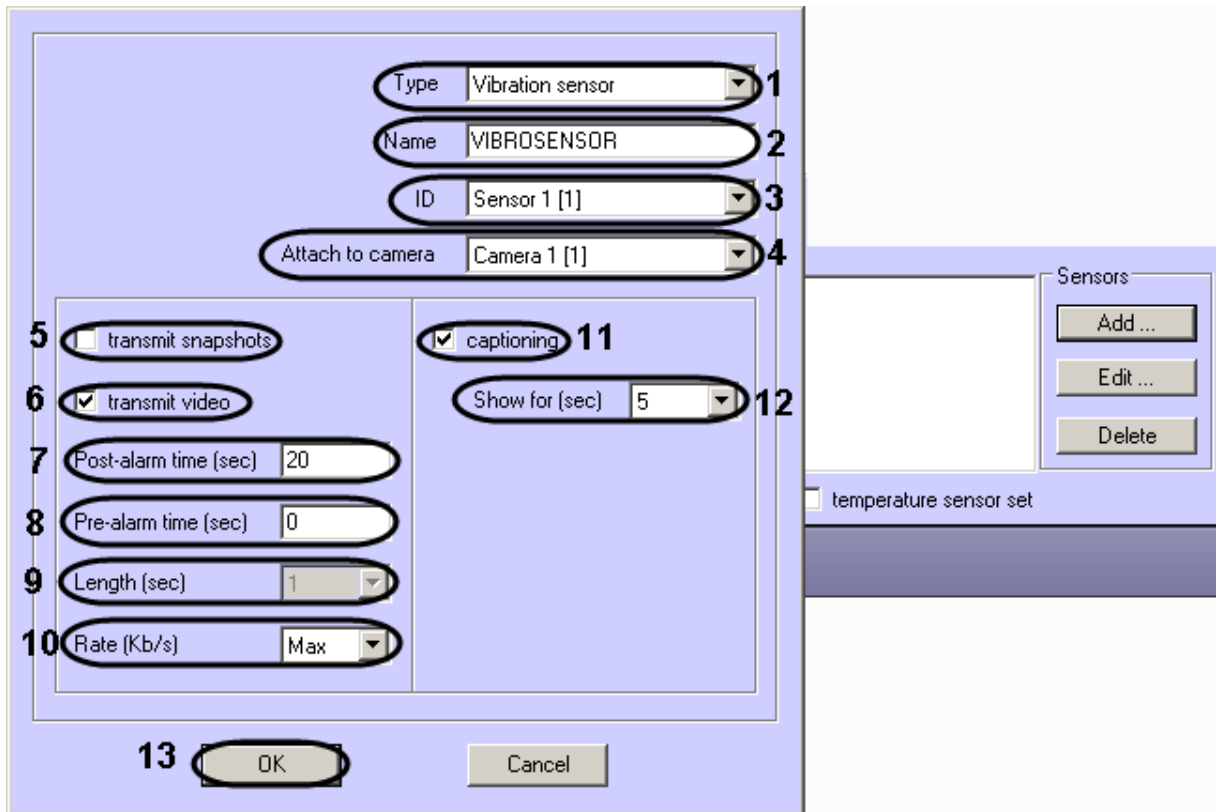

Fig. 8.4—6 Dialog for adding a sensor
3. In the **Type** drop-down list select a type of sensor from the 16 types described previously (Fig. 8.4—6, 1).